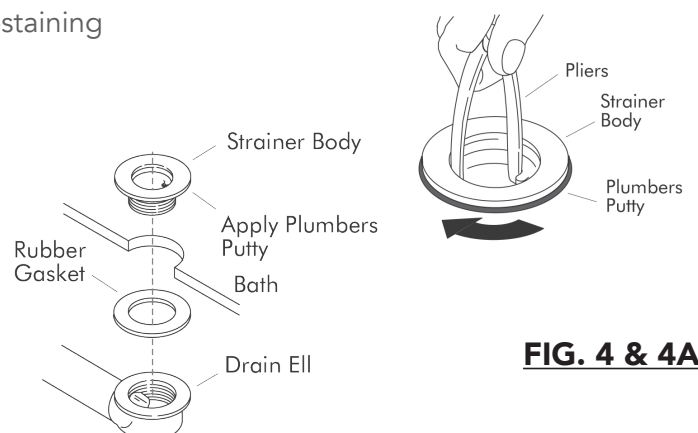

FIG. 4 & 4A
13. Re-install lift and turn top into flange **(FIG. 4)**